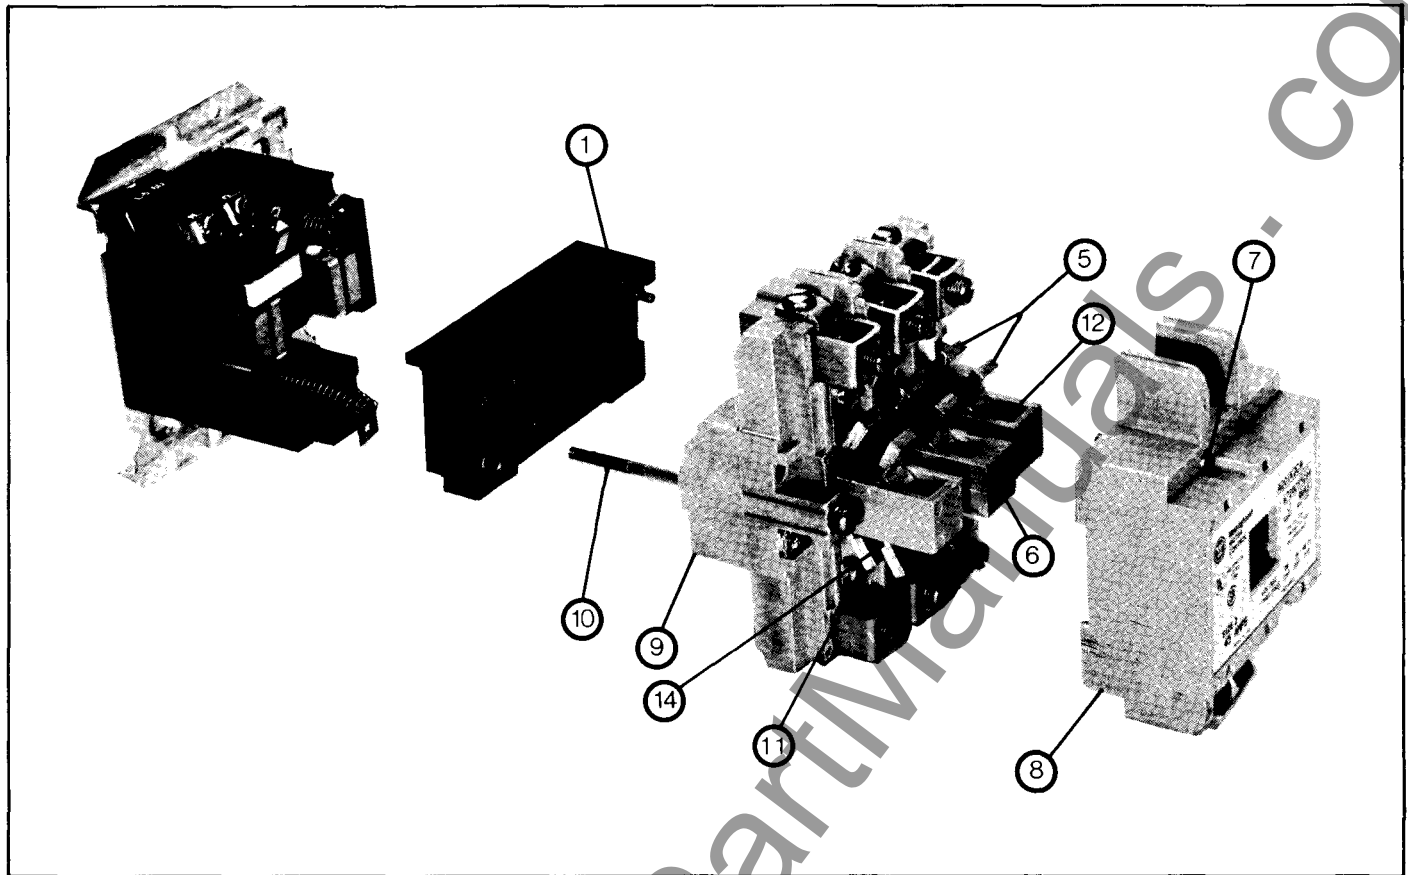

Fig. 8 A201 Magnetic Contactor (Exploded View)
Refer to Figure 8. Loosen the two arc box assembly screws (7) located immediately above and below the nameplate and remove the arc box (8). Contacts (5) are visible. Retighten the screws per Table III.